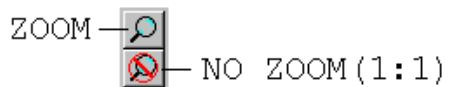

Figure 55: ZOOM TOOLBAR
A first click on the *Zoom* button (Figure 55) or on *Zoom* on the *Tools* menu (Figure 51) changes the cursor in and allows you to zoom in the section view by simple click on it.
A second click on the *Zoom* button (Figure 55) or on *Zoom* on the *Tools* menu (Figure 51) changes back the cursor in and allows you to work on your zoomed section view.
- Click on the *No Zoom (1:1)* button (Figure 55) to bring back the view to the initial size.